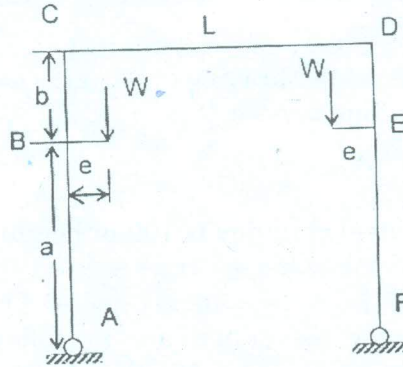

Fig. 4
- (b) Determine the collapse load for a frame carrying a crane girder as shown in Fig. 4.